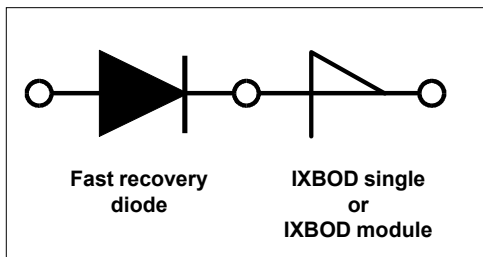
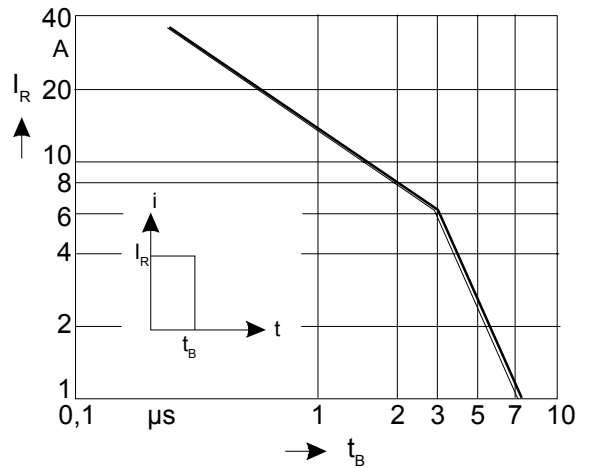

Fig. 9 IXBOD protection by a fast recovery diode.
Fig. 10 Maximum peak value of the reverse current admissible for a given pulse-width  $t_B$ , which is required for the suitable fast recovery series-diode.
2. For higher reverse voltages a fast, soft recovery diode must be connected in series (Fig. 9). This diode must fulfill the conditions of Fig. 10.